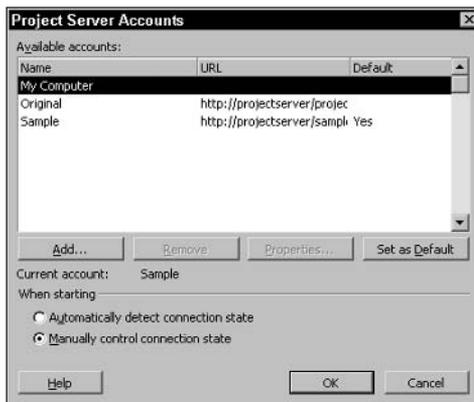

Figure 20-1: Use this dialog box to add a Project Server logon account and to specify connection state detection options.
1. In Project Professional, choose Tools⇨Enterprise Options⇨Microsoft Project Server Accounts. You see the Project Server Accounts dialog box, as shown in Figure 20-1.